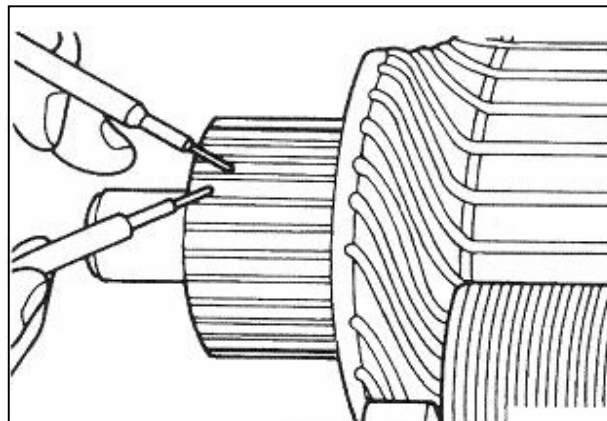

Fig. 9-26
(3) Armature coil open-circuit inspection (see Fig.9-26)